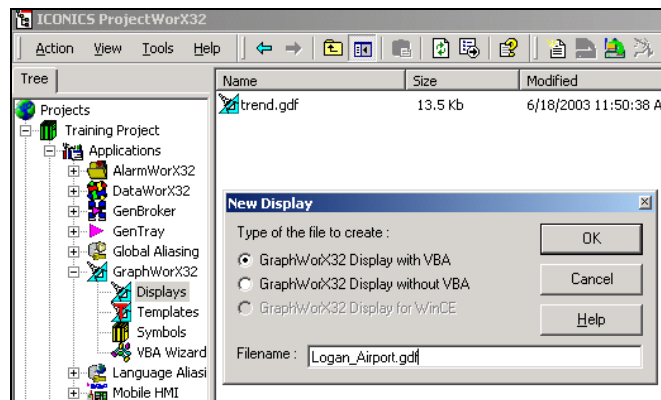

Figure 5.5
3. Right click on **Displays** in the tree control and select **New Display**, and name the display **Logan_Airport.gdf**, as shown in **Figure 5.5**. Click **Ok**.